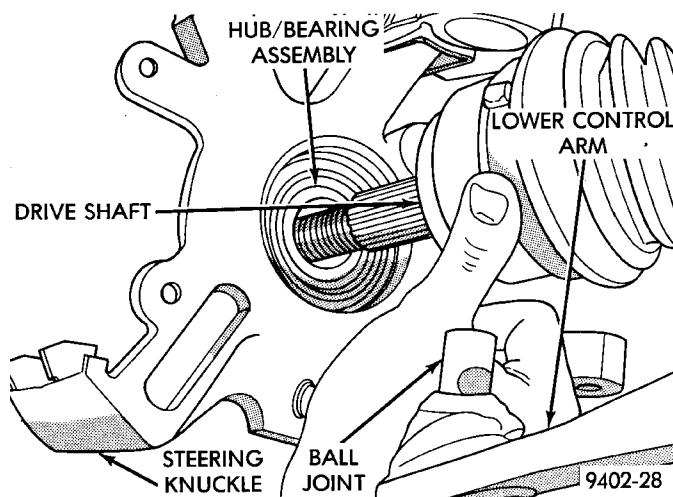

Fig. 24 Steering Knuckle Separation From Driveshaft
(13) Pull steering knuckle assembly out and away from outer C/V joint of the driveshaft assembly (Fig. 24).
(3) Slide drive shaft back into front hub and bearing assembly. Then install steering knuckle onto the ball joint stud (Fig. 24).